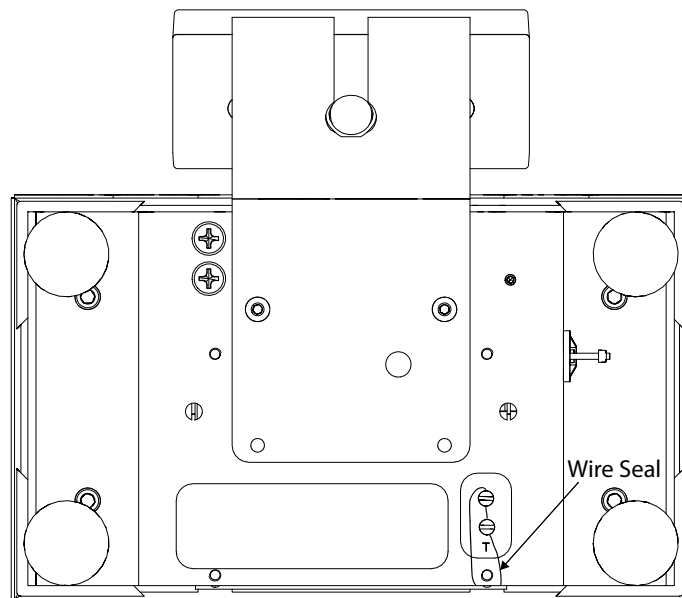

Figure 6-6. Wire Seal - Bottom View
2. Guide sealing wire through the screws over and under the sealing plate (see Figure 6-6).